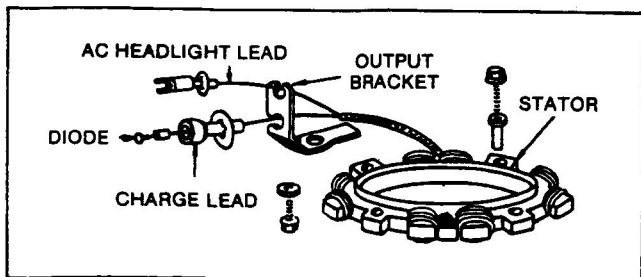
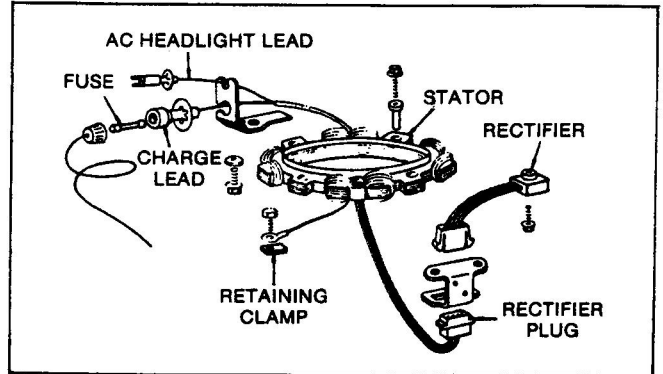
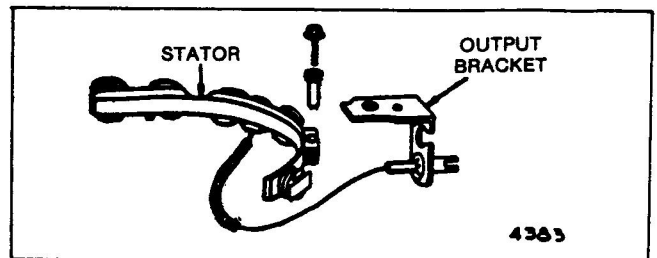

Fig. 3 — "Dual Circuit" with Diode
Fig. 4 — "Dual Circuit" with Fuse and Rectifier
Fig. 7 — DC only
4. If original stator assembly was like Fig. 3, follow steps 5A and 5B. If original stator was like Figs. 4, 5 or 6, follow steps 6A and 6B. If original stator was like Fig. 7 follow step 7.